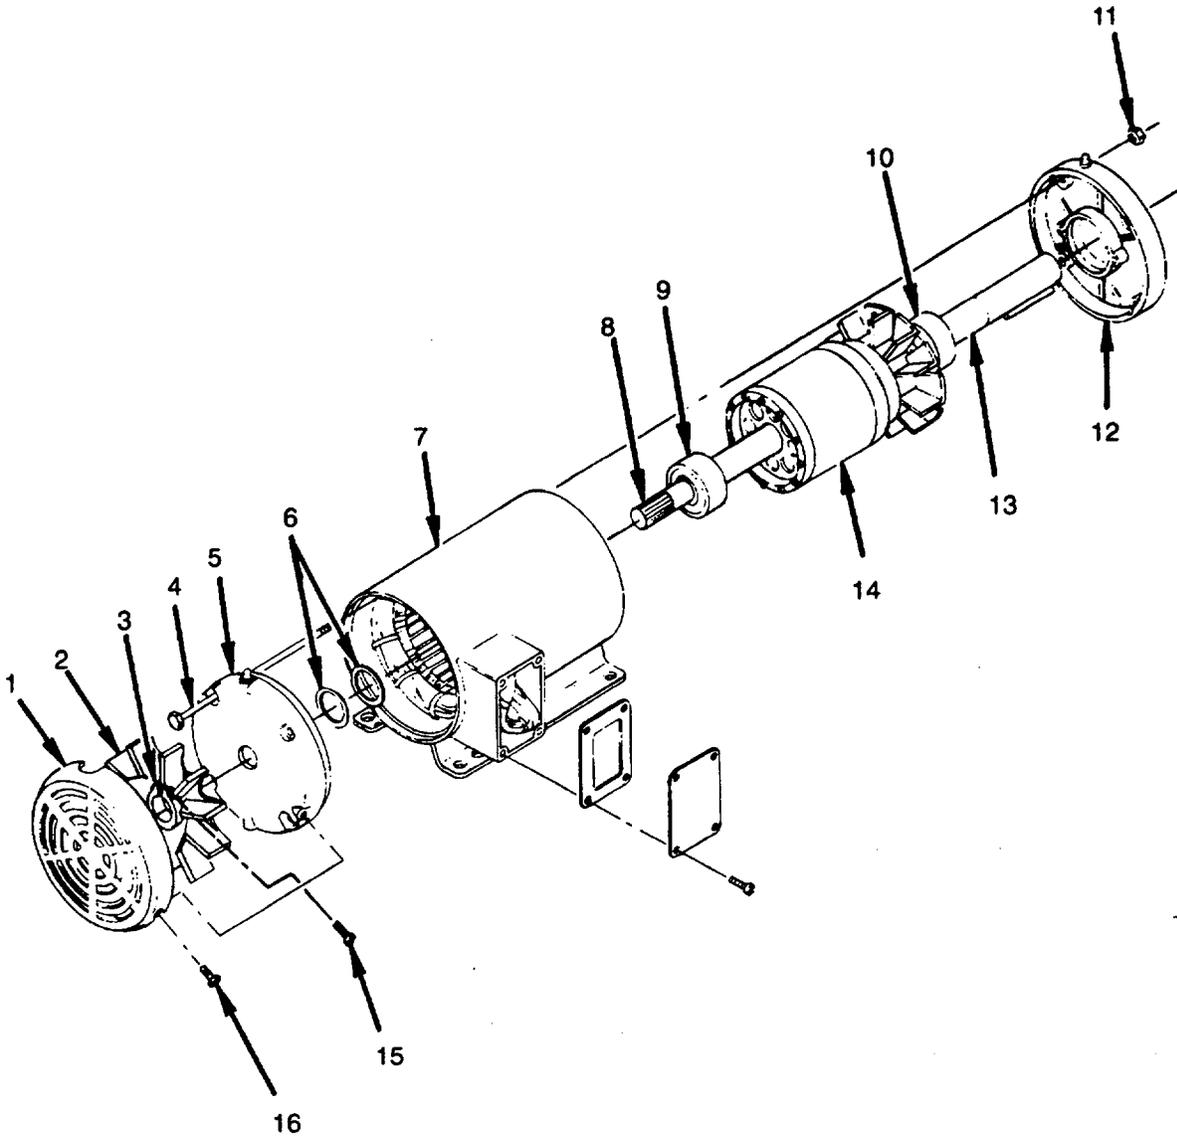

Figure 5-2. Condenser Motor (B3)
1. Remove three screws (16) (see Figure 5-2).
2. Remove fan shield (1) from end cap (5).
3. Loosen clamping screw (15) .